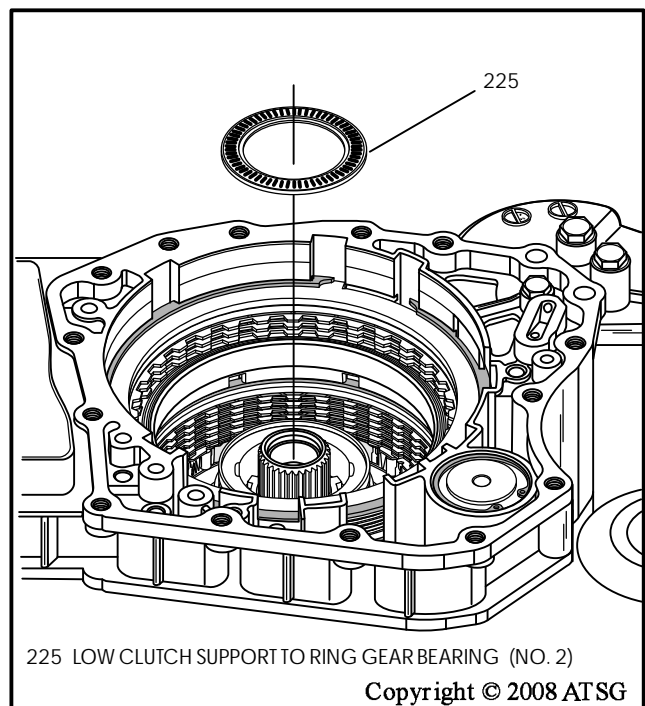

Figure 58
71. Remove number 2 thrust bearing (225) from the low clutch support in case, as shown in Figure 58.